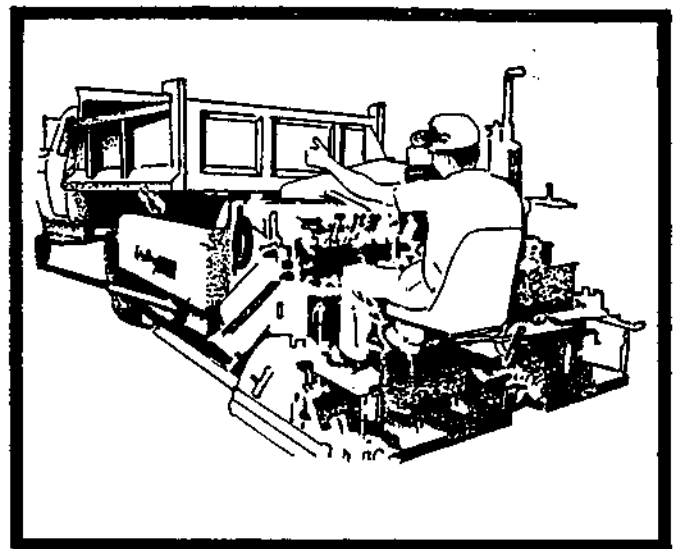

FIGURE 15
- D. It is the operators job to guide the truck up to the paver and signal driver when and how much to dump into hopper. Truck driver must maintain a light pressure on his brakes to keep truck from dumping material on the roadway in front of paver. See figure 15.